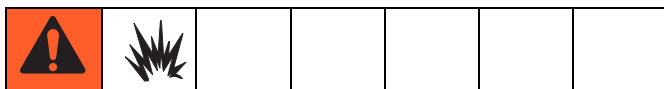

**FIG. 31**
3. Attach inlet hose to inlet (6) (FIG. 31).